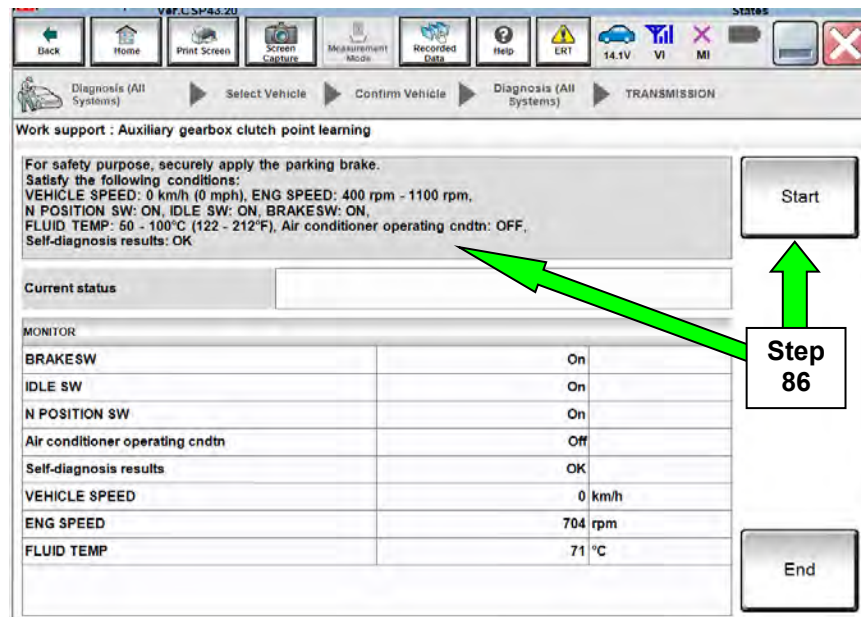

Figure 45
86. Follow the on-screen instructions in Figure 45, and then select **Start**.